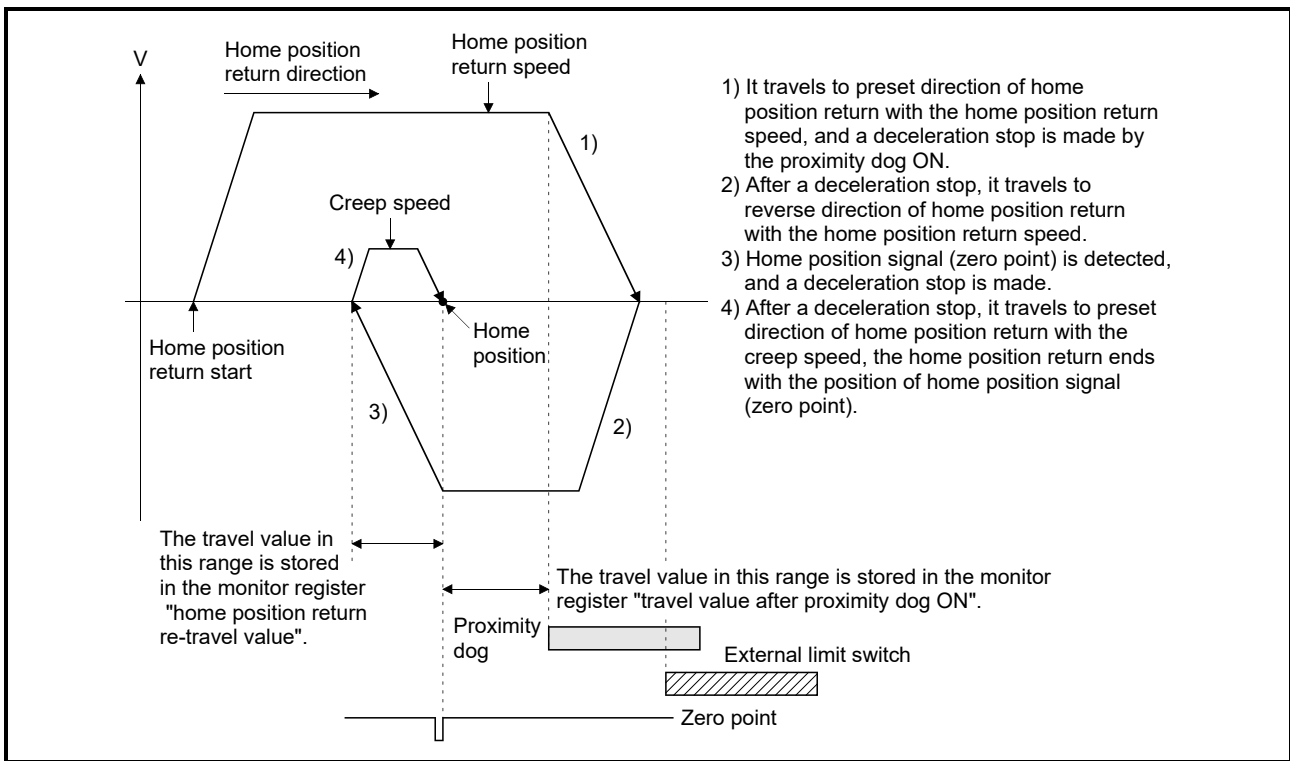

Fig. 6.44 Home position return operation by the scale home position signal detection method
(4) Cautions
- (g) An error always occurs without the proximity dog in home position return direction from home position return starting position, so that the proximity dog is set before limit switch of home position return direction for making the proximity dog overlap in limit switch like Fig. 6.44.